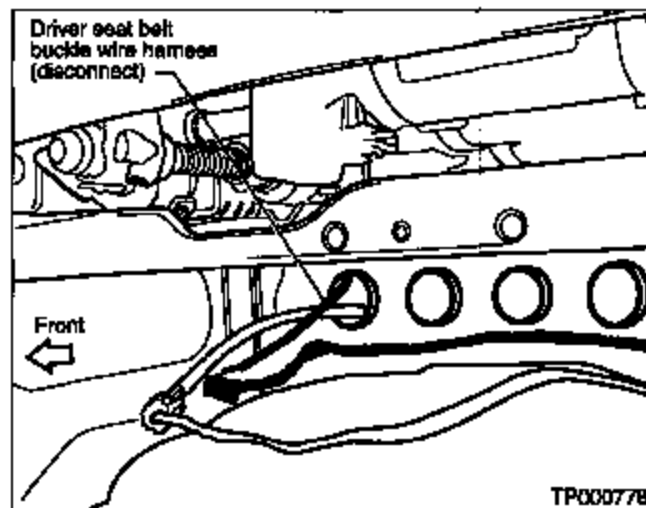

Figure 6
1. Reach under the driver's front seat and disconnect the seat belt buckle wire harness connector from the vehicle wire harness (see Figure 6).